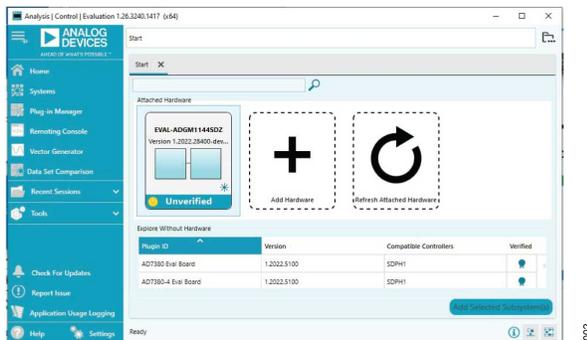

Figure 2. EVAL-ADGM1144SDZ Plugin Start-Up Window
6. Run the ACE software. The EVAL-ADGM1144SDZ plugins appear in the **Attached Hardware** window of the **Start** tab (see Figure 2).